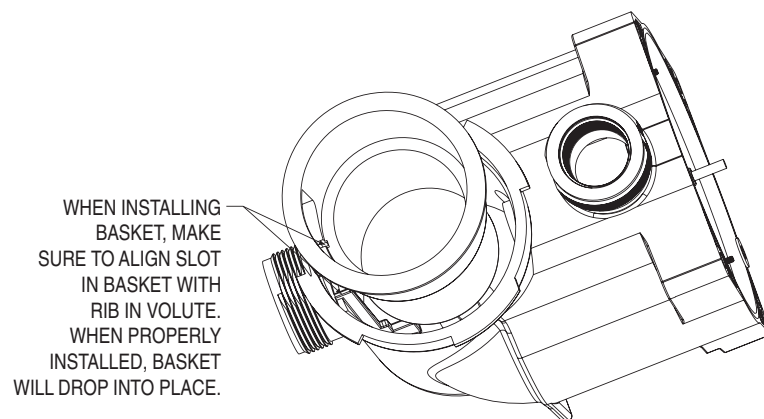

Figure 2.
6. Replace the basket. Be sure to align the slot in the basket with the rib in the volute, see Figure 2.